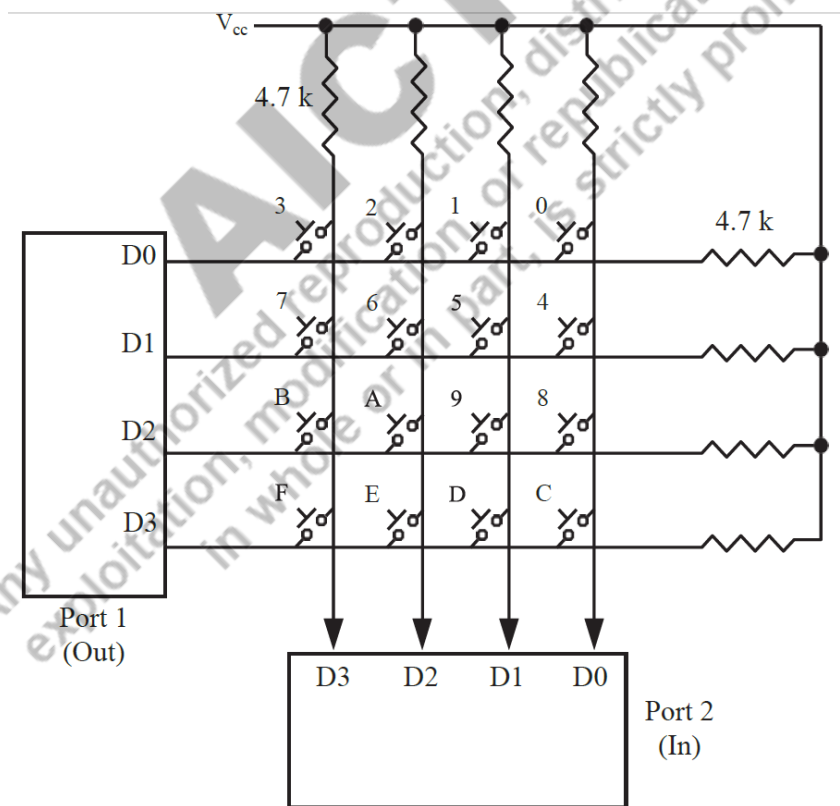

Figure 6.3: Matrix Keyboard
Imagine a simple 4 x 4 keypad setup, connected to a microcontroller. The keypad's rows are connected to an output port, and the columns are connected to an input port as shown in Figure 6.3. The microcontroller is responsible for continuously checking for any key presses.
4. **Identifying the Key Pressed:** The program checks each column bit, one by one, to see if it's low (indicating the pressed key). When it finds the 0, it retrieves the corresponding ASCII code from the lookup table. If it doesn't find the 0, it moves to the next entry in the table and repeats the process until the key is identified. This process is represented in the flowchart shown in Figure 6.3.